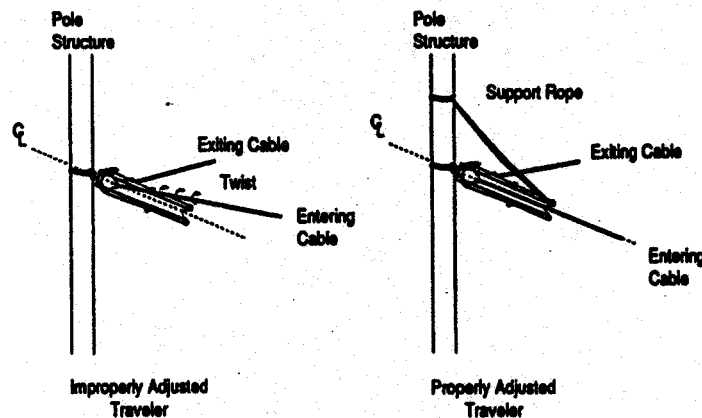

Figure 1. Proper Traveler Adjustment.
- VII.2.6. Do not allow the cable to twist as it is pulled through travelers or sheaves. Observe the cable markings of the cable as it is first pulled through the traveler or sheave. If continuous twist in a constant direction is observed, stop the installation immediately, ease off the tension, and readjust the traveler. Due to the light weight of FREE-SPAN and relative low stringing tensions, the traveler may require support at the base to help prevent the cable from riding out of the traveler or excessive twisting during installation. Proper feed of the cable through travelers or sheaves is diagrammed in Figure 1.